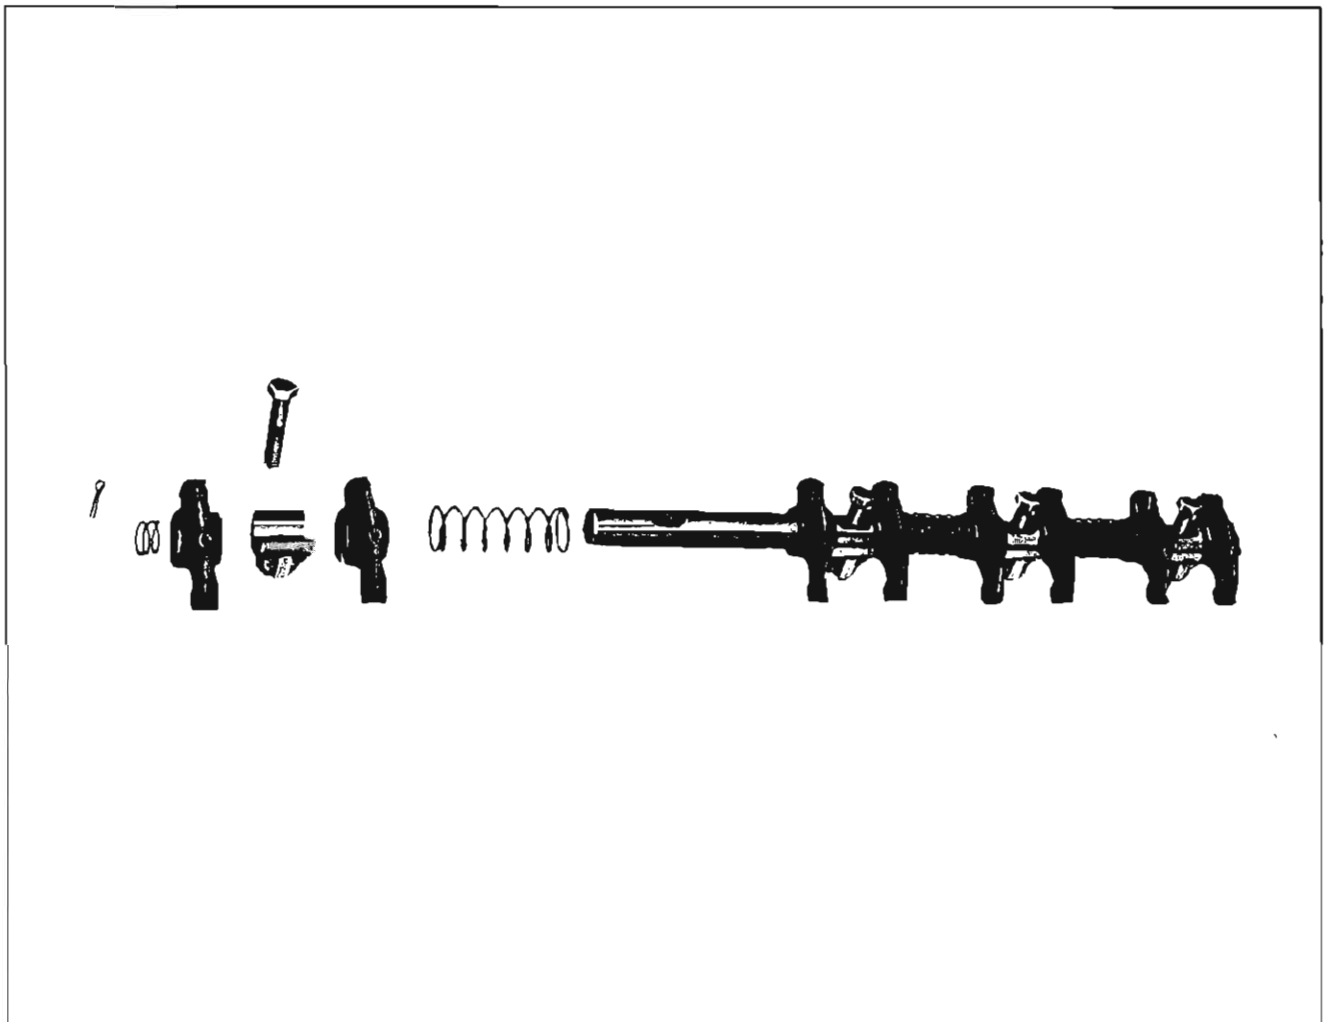

Fig. 3-407 Rocker Arm Shaft Assembly
1. Lubricate frictional surfaces of rocker arms and shaft with SAE 10W30 oil, and assemble. (Fig. 3-407)